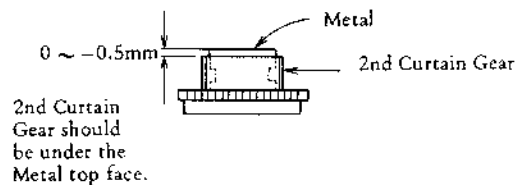

Fig. 13
- 2) The difference between the top of the 2nd Curtain Gear (19-9863) and the top of the bearing should be:  $\pm 0.0 - 0.05\text{mm}$  See Fig. 13.